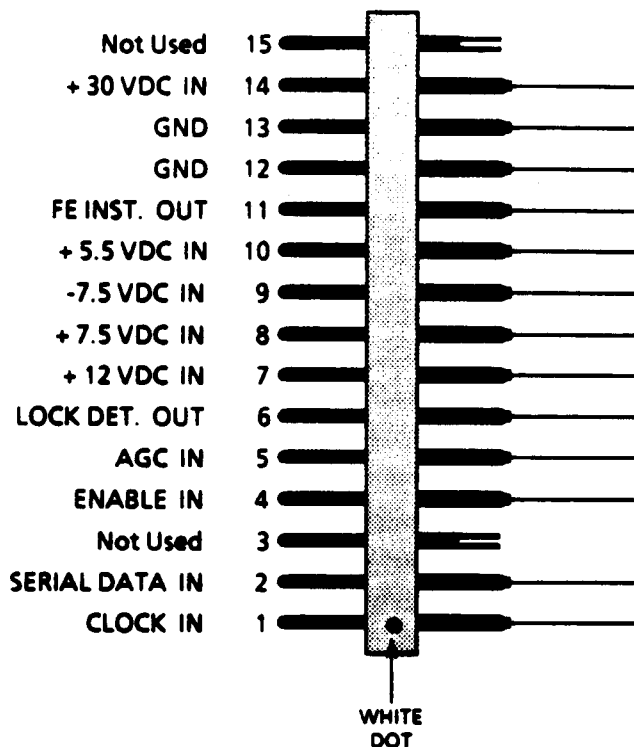

Figure C-5. Connector W4P1, Pin Assignments
C.5.4 POWER AND DIGITAL INTERFACE (W4P1) - This connector provides power inputs and the control interface between the FE and the Miniceptor. Figure C-5 illustrates the pin assignments for this connector. Explanations of the signals resident on the specific pins of this connector are provided in the following.